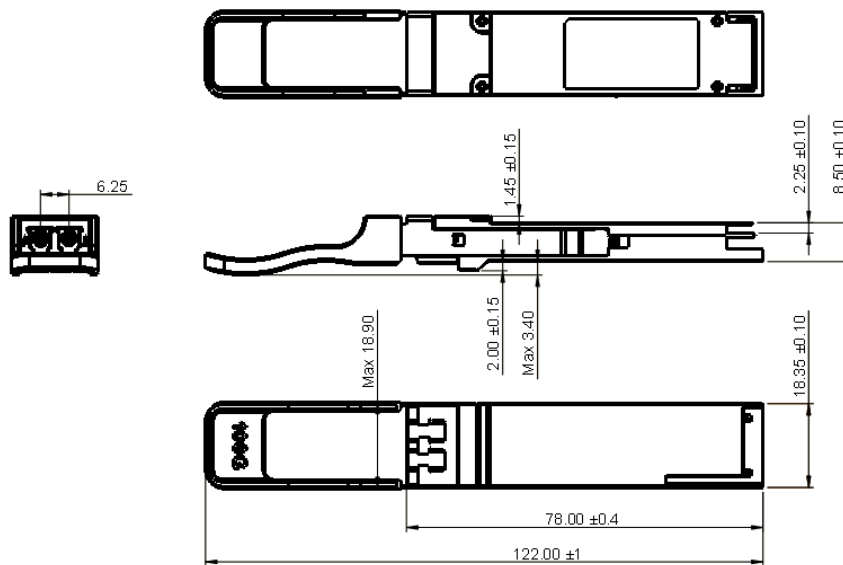

Figure 4. Mechanical Outline
- Measured with conformance test signal for BER = 2.4x10⁻⁴. A compliant receiver shall have stressed receiver sensitivity (OMA_{outer}) values below the mask of Figure 4, for SECQ values between 0.9 and 3.4 dB.